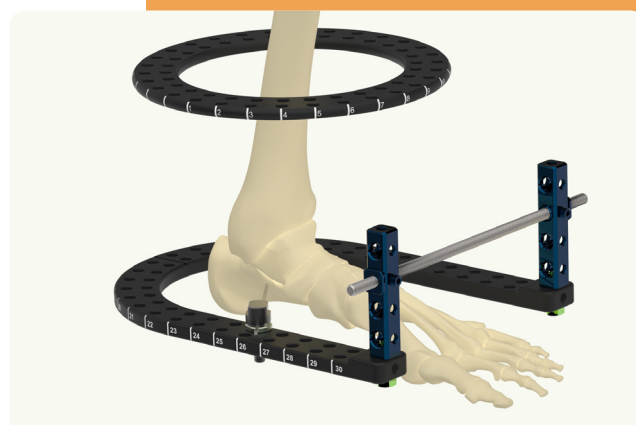

Fig. 7c - Attach Cubes and Close Foot Ring
**Alternate method:** When using cubes to close off foot ring, attach it to the vertical non-threaded holes on either ends of the foot ring using 20mm (green) connection bolt. From here, insert pin sleeve through cube holes, then insert threaded rod through the pin sleeves, securing with set screws (Fig 7c).